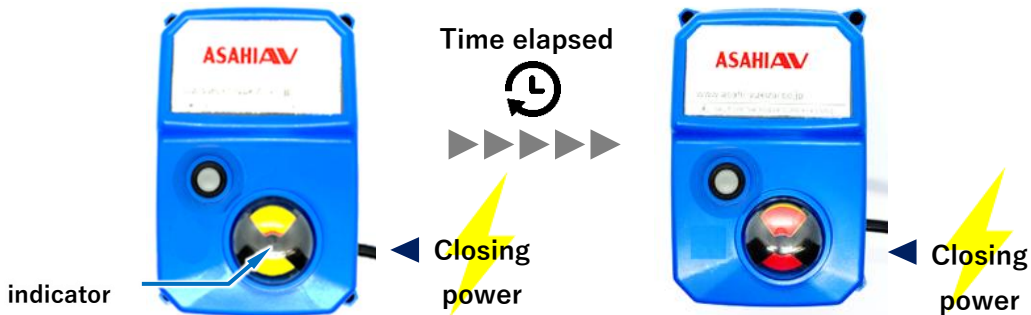

Figure 7.2-1 Closing control
- ① Confirm that the actuator indicator is "solid yellow".
- ② Supply closing power (power between blue and red of the pre-cable) from the distribution panel to the actuator.
- ③ After time has elapsed, confirm that the actuator indicator automatically stops at "solid red" (**Figure 7.2-1**).